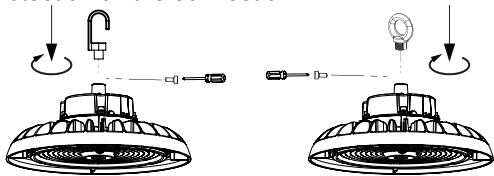

Figure 1
1. Screw the hook or Ring into the fixture, tighten and fix it. (figure 1)